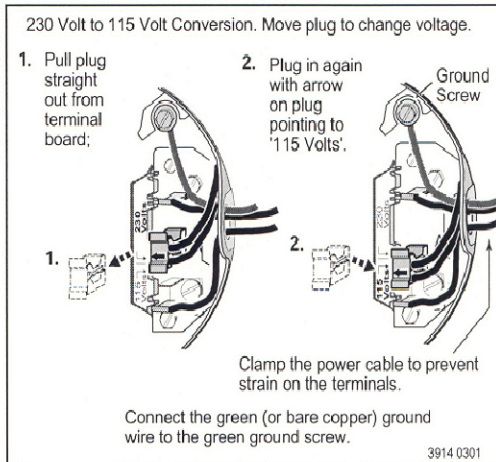

Figure 6: Motor wiring connection, Spade Connector
**To Convert from 230 Volts to 115 Volts, Spade Connector type (see Figure 6).**
3. Connect the green (or bare copper) ground wire to the green ground screw first (see Figure 6). Use a solid copper wire at least as large as the power supply wires.